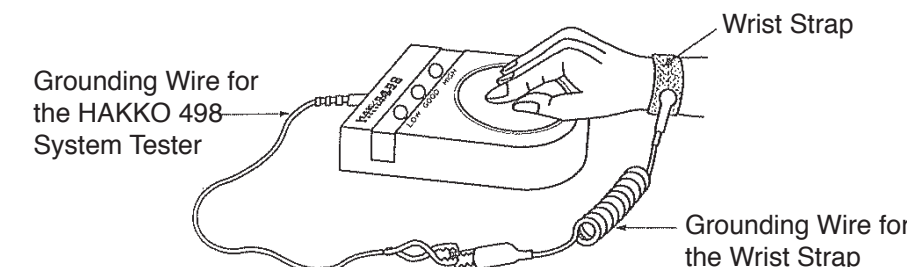

fig. 1
5. Press the test pad on the front of the unit (fig. 1). An LED lamp and an audible signal will be heard.